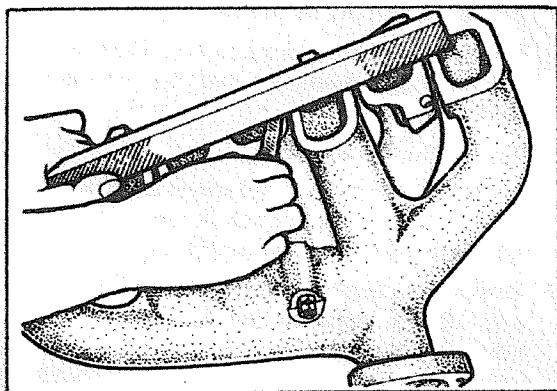

Fig. 17 Manifold Strain Measurement
2. Combine the manifold with the exhaust manifold, check for strain at the joining surfaces with the cylinder head, and correct or repair if the strain is over the repair limit. (Fig. 17)